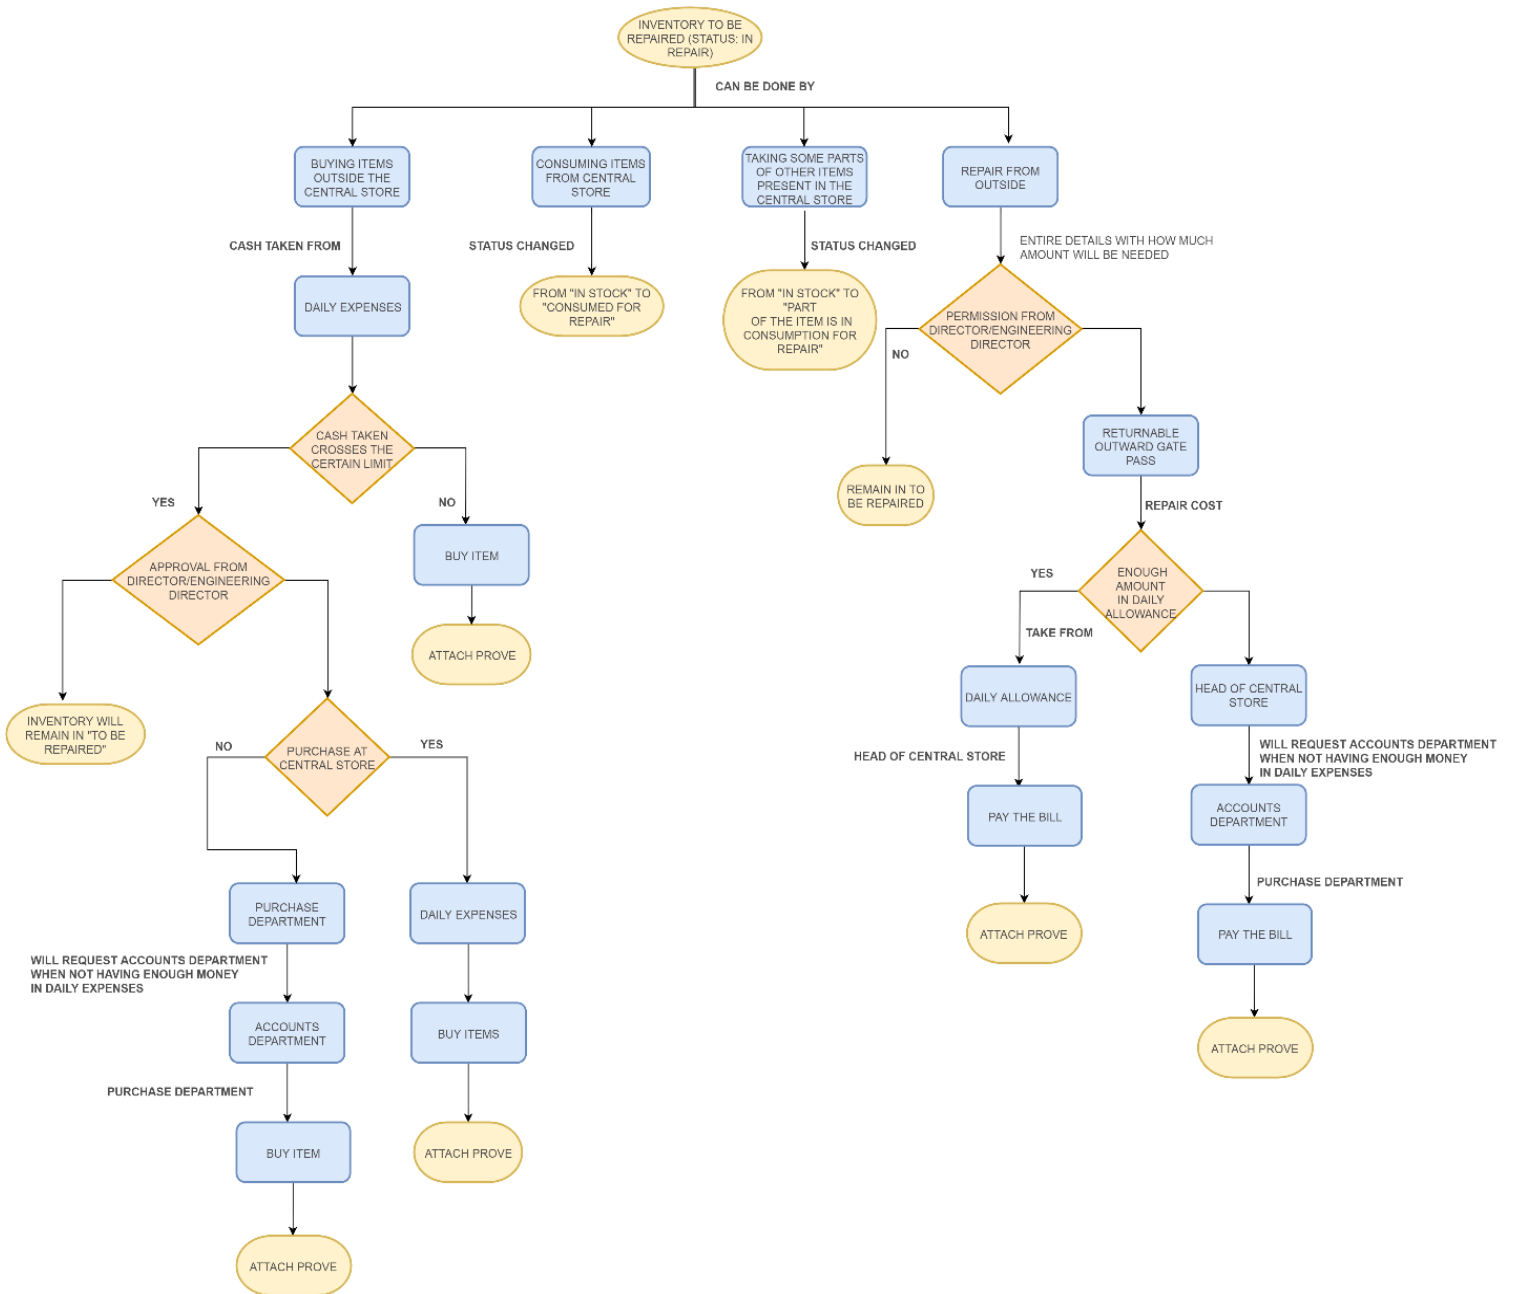

Figure 4.14
3. If the permission is given, to sell scrap Quotations (**refer figure 4.14**) are taken from market and then these rates are informed to Engineering Director and again the permission is required, if he gives the permission, the buyer gives advance and the scrap is taken by Buyer.